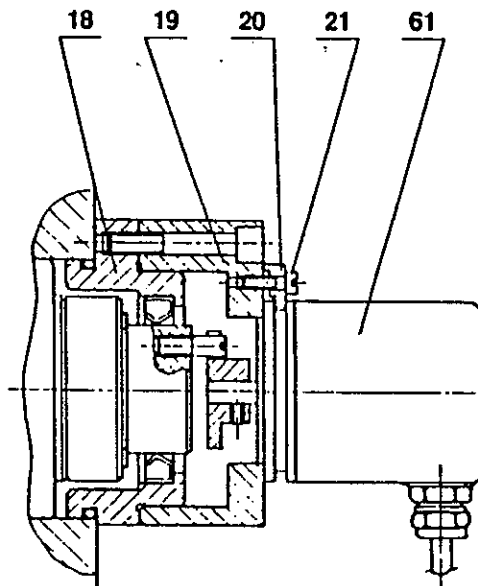

FIG 12.1
12. Replacement or adjustment of rotory encoder (fig 12.1)